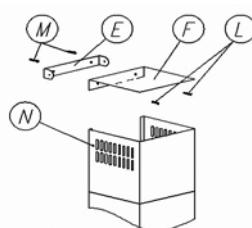

Fig. 5
- Measure and mark a 15 mm distance under the marked maximum height of the upper chimney cover. Drill holes at this height, and fix the wall holder of the upper chimney cover (E). If needed, use the upper cover (F), as shown in Fig. 5.